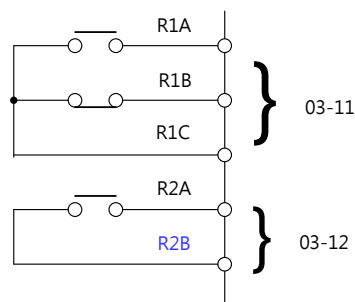

Figure 4.3.72 Over/Low torque detection for DI/DO terminals
- (1) In V/F control mode, based on 100% rated output current of inverter.
- (2) In SLV mode, based on 100% rated torque of inverter.
- Over and low torque detection condition can be output to the multi-function digital outputs (R1A-R1C, R2A-R2C) by setting parameters 03-11 to 03-12 to 12. Refer to figure 4.3.72